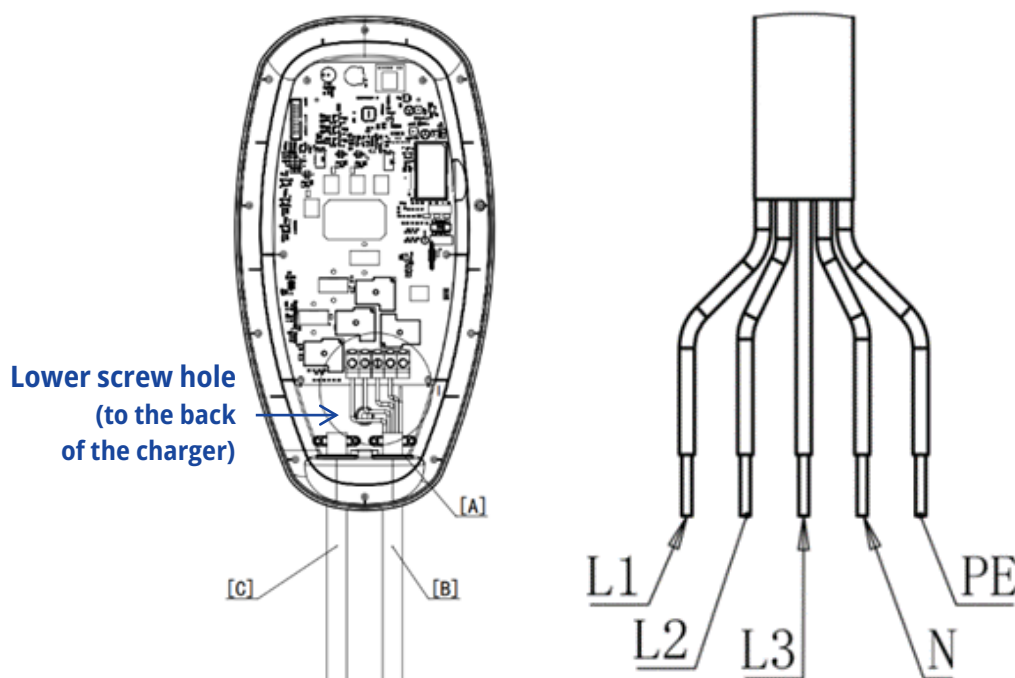

Figure 4.5 Cables on the Charger and Wires in Input Power Cable
- The screw hole on the charger is found in the back of the charger, just below incoming wire terminals. See also **Figure 4.5** on **Page 12** for reference.
- For **TCHARGE®** HM10 AC charger, the charging cable is installed to the left at the bottom of the charger ([C] in **Figure 4.5**), while input power cable ([B] in **Figure 4.5**) occupies the remaining cable inlet at **the bottom right** ([A] in **Figure 4.5**). When the charger is opened, you can see the wires from the input cable being connected to the terminals inside the charger.
- If the **TCHARGE®** HM10 AC charger to be installed is a **3-phase, 22kW model**, it will have **5 wires at the end of the input cable**, namely **L1, L2, L3, N, and PE** (as depicted to the right in **Figure 4.5**).